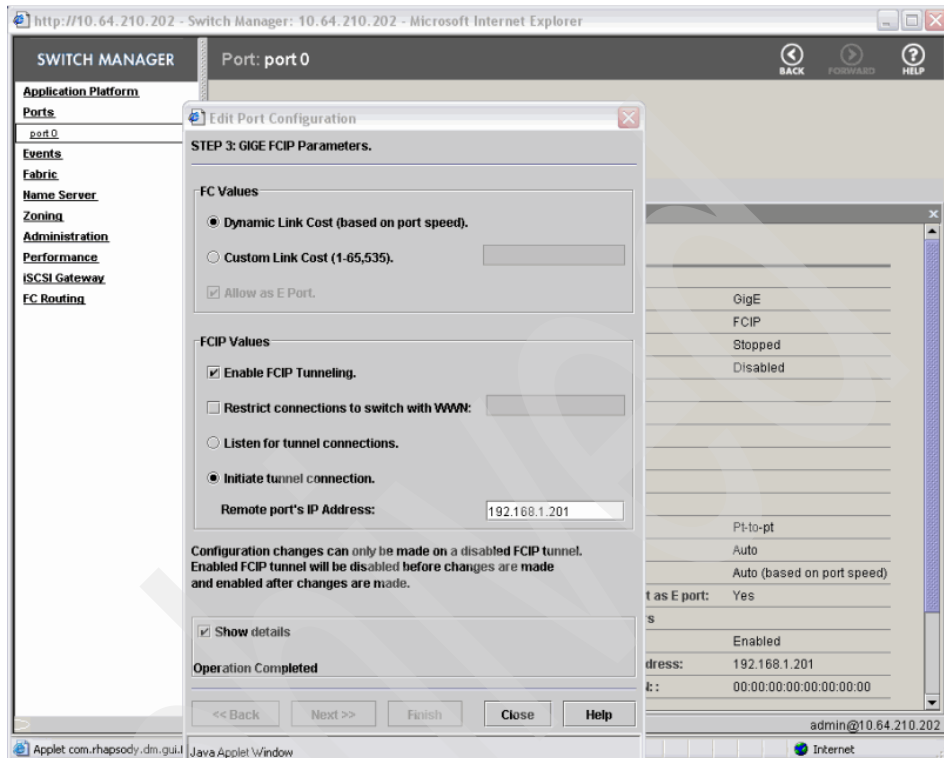

Figure 6-50 Completed port 0 configuration
6. We can see from the details behind this final window (Figure 6-50) that the remote address has been populated. We click **Close** to close this last window.